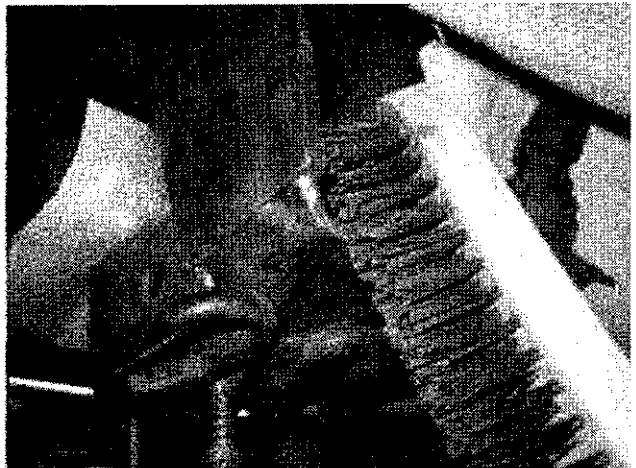

Figure 9
4. Clean new welding beads (at all 4 weld points) with a wire brush (Figure 9).